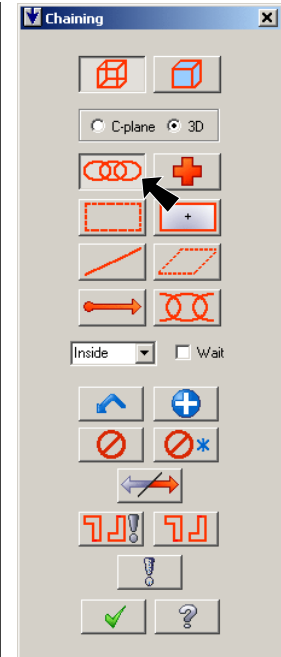

Fig. 60
Step 4. Select **Chain** in Chaining dialog box, **Fig. 60**.